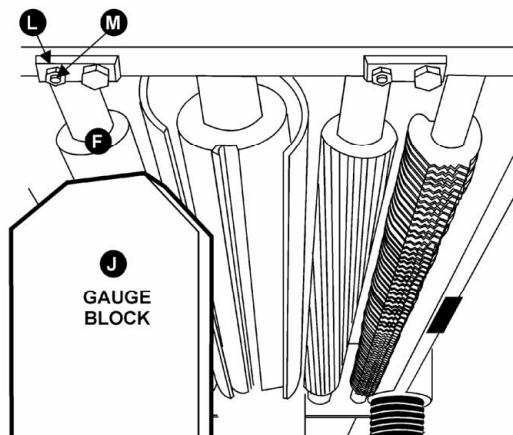

Figure 27
4. Move the gauge block (J, Fig. 27) under one end of the outfeed roller (F, Fig. 27). The bottom of the outfeed roller should just touch the top of the gauge block. If an adjustment to the outfeed roller is necessary, loosen the lock nut (L, Fig. 27) and turn screw (M, Fig. 27) until the outfeed roller just touches the gauge block. Then tighten lock nut (L, Fig. 27).